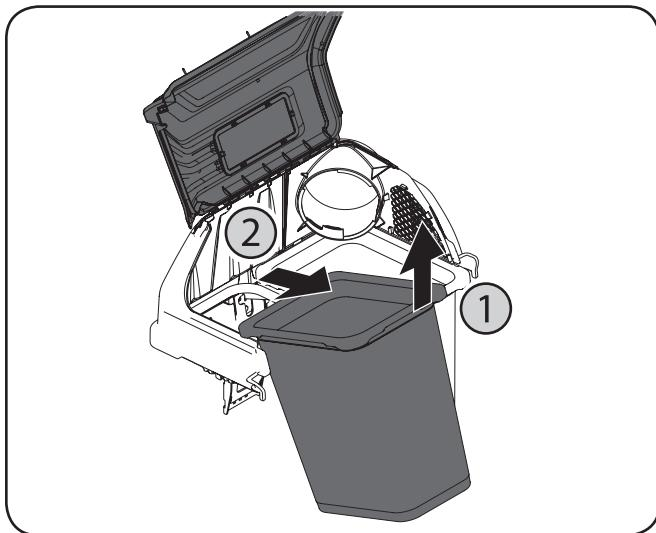

Figure 26
3. Remove the grass bags by lifting these up (1) and moving the bags away from the bag support assembly (2). See Figure 26.